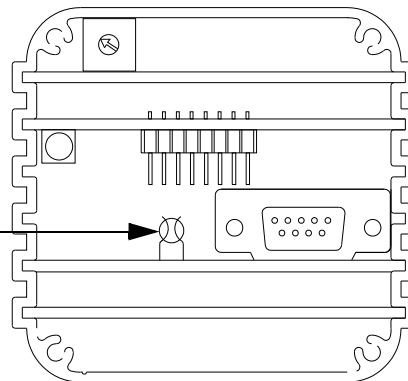

Figure 4-4 Position of 1 Amp, Slow Blow Fuse
5. Locate the defective fuse as shown in Figure 4-4 and replace it with a new 1 amp, slow blow fuse.